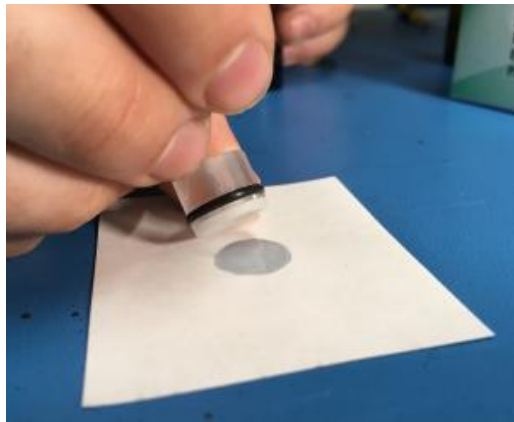

Figure 4 Replenishing the impactor plate
2. Replenish the Impactor Plate's oil by pressing it on the oiled paper, see **Figure 4**. There should not be any excess oil flowing or pooling on the impactor plate. There should only be a sheen of oil. If there is any excess oil, remove it by pressing the impactor plate on a clean paper pad.